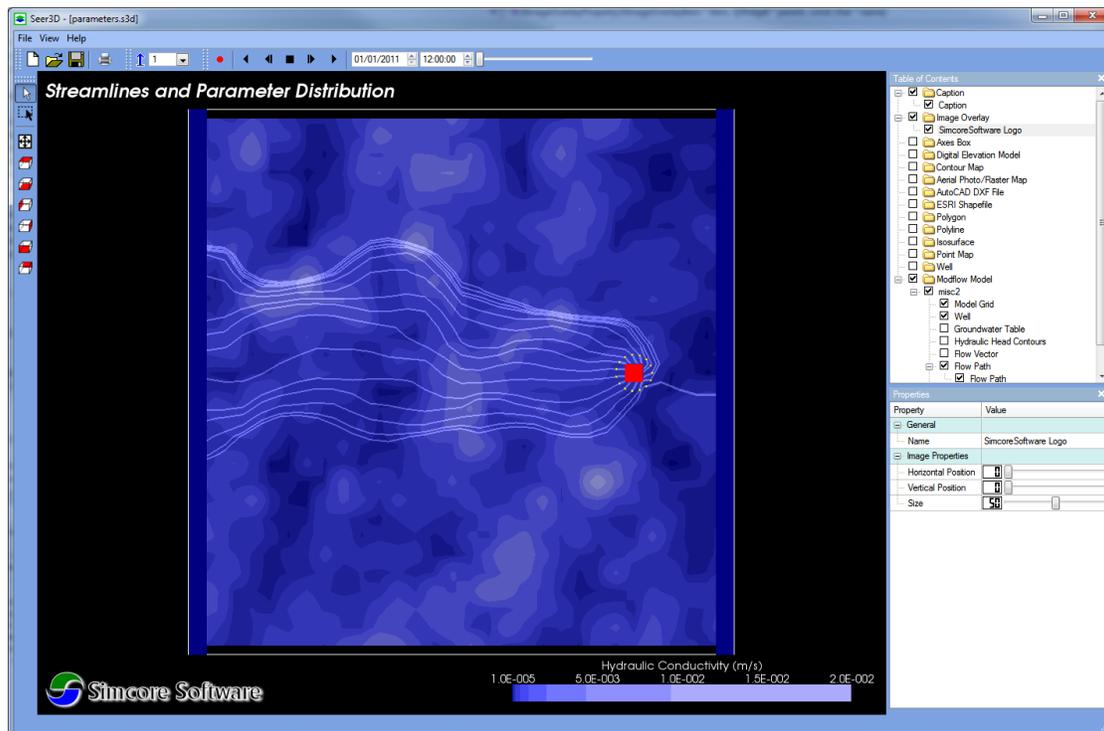

Figure 4.2. A logo on the lower-left corner of the Viewport to promote public recognition
3. Click on the newly added item to display its Properties window that you can use to adjust the display settings as described in the *Properties* below. Figure 4.2 shows an example of a logo on the lower-left corner of the Viewport.